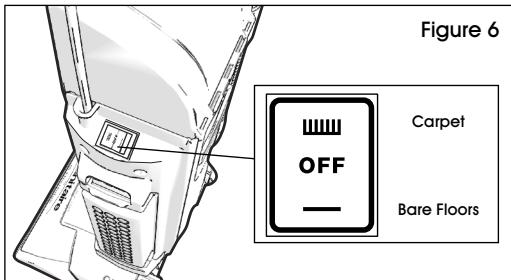

Figure 6
- The power switch is mounted on the top of the filter assembly on the left side of the cleaner. The power is off with the switch at the center position. Press the front of the switch for cleaning carpet, press on the rear of the switch to clean bare floors. (See Figure 6)